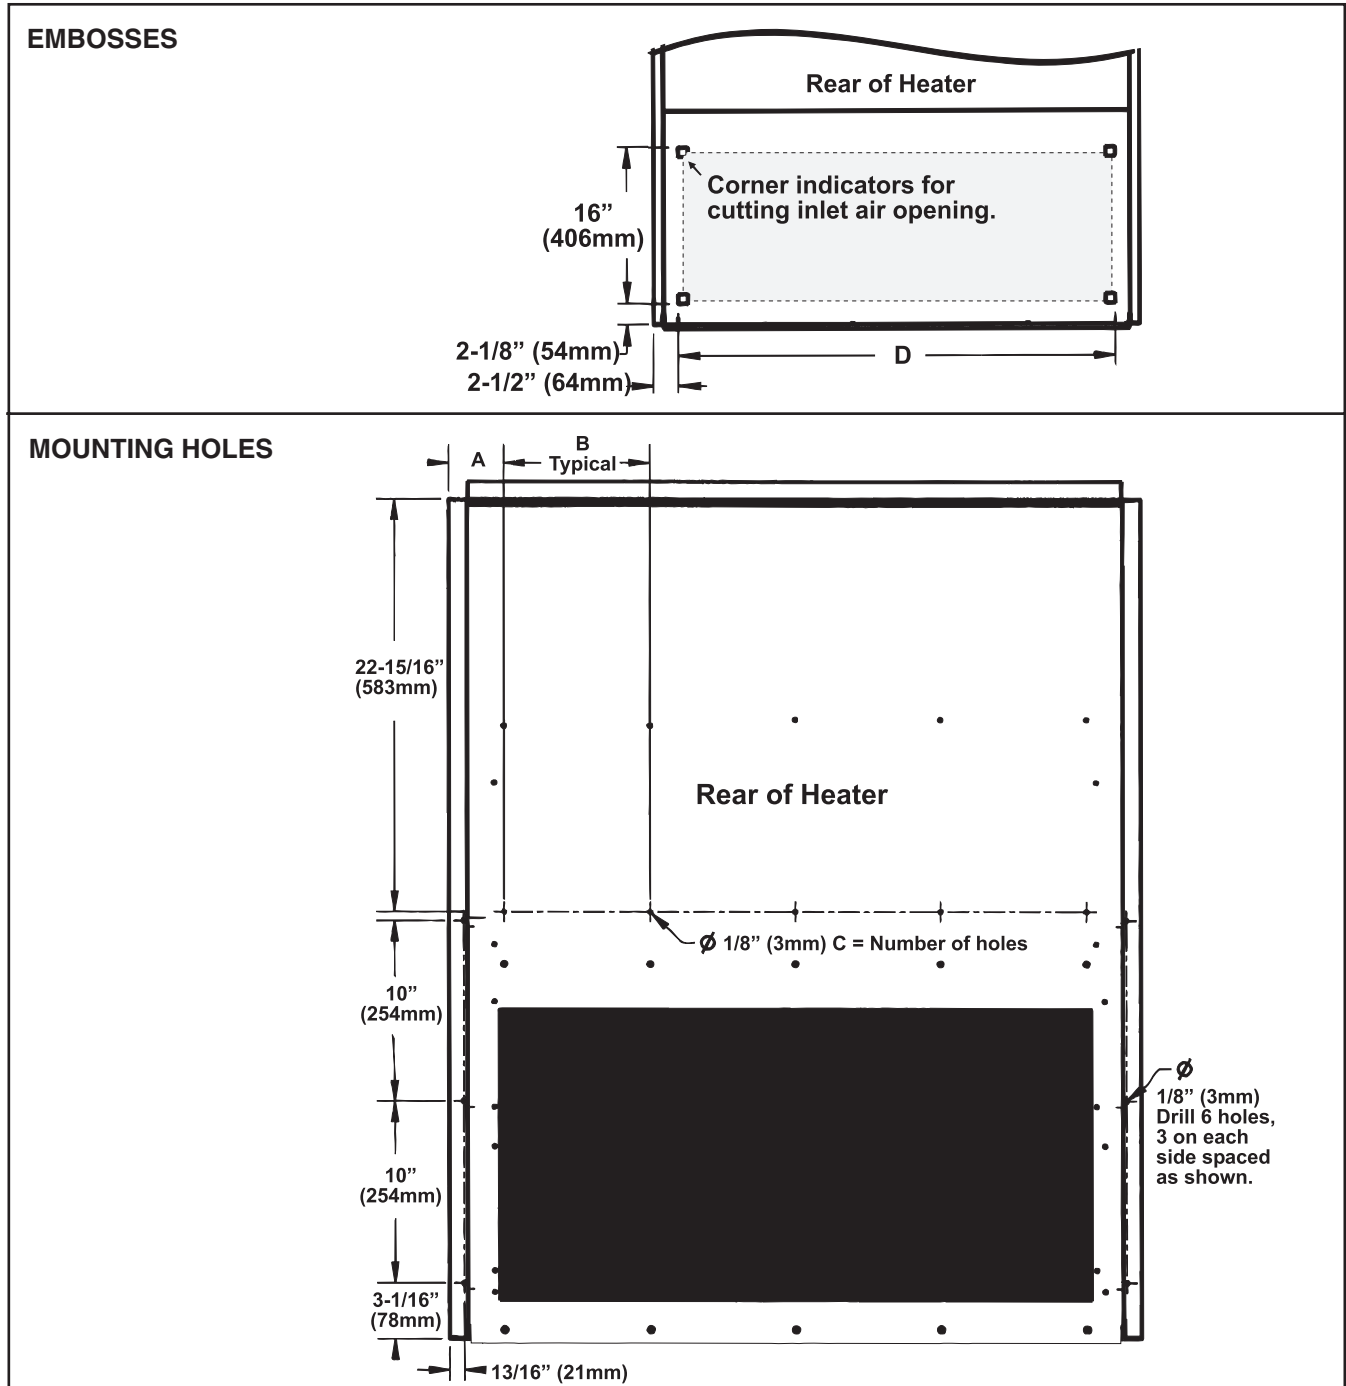

Figure 2. Embosses and Mounting Holes (Refer to Table 6)
1. Cut inlet air opening and drill mounting holes (see Figure 2):
Unit Size	Dimension (See Figure 2)